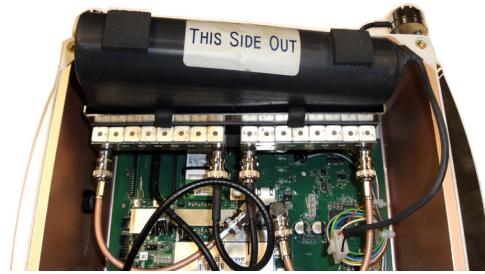

Figure 25: Battery Removal
3. Remove the battery from the unit (Figure 25) and safely discard the battery (see "Battery Disposal" on page 21).